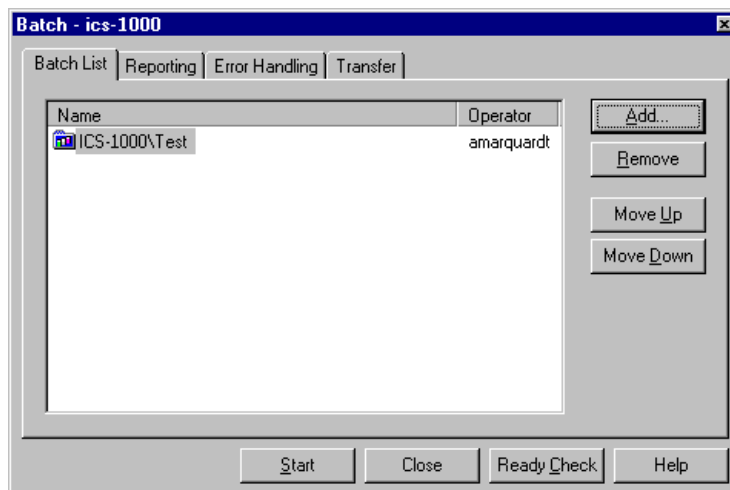

Figure 3-11. Batch Dialog Box with an Example Sequence Added to the Batch List
4. Click the **Add** button on the **Batch List** tab and add the sequence you created in Step 2. See Figure 3-11 for an example.